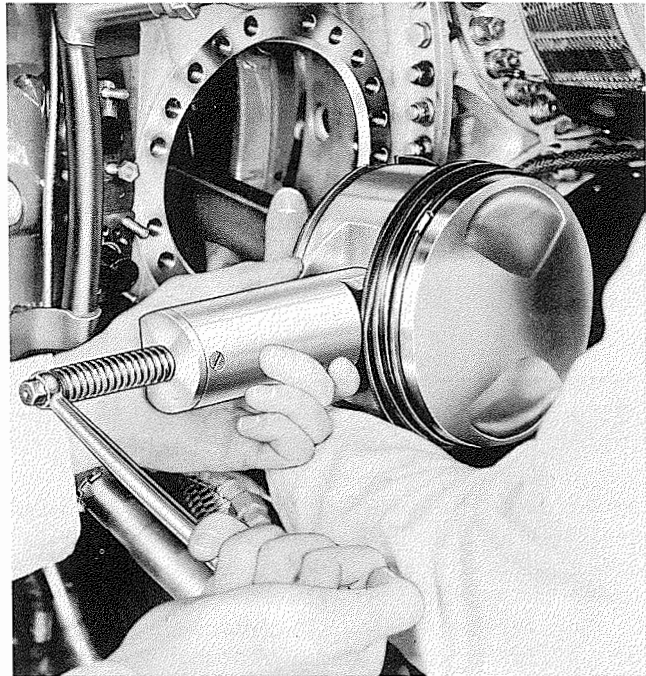

Figure 7-67. Pulling Piston Pin
d. Remove the piston pin plug. Install puller 806888, shown in figure 7-67, in the piston pin and pull the pin. Remove the piston.